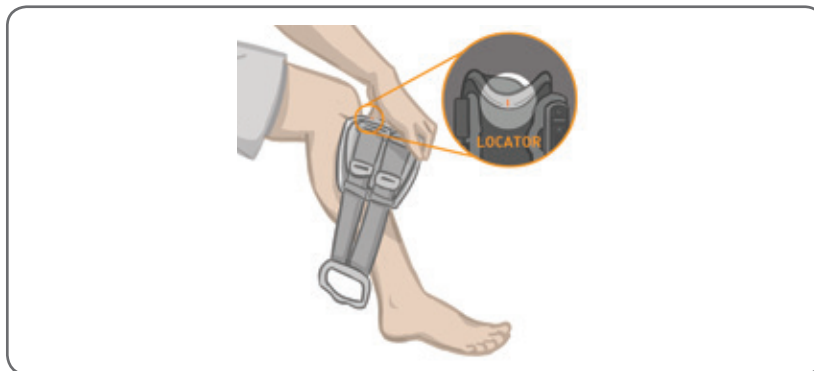
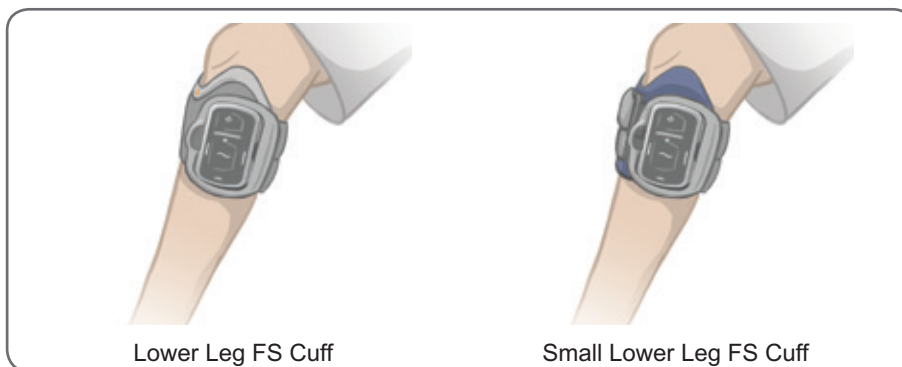

Figure 6-12: Positioning the Lower Leg FS Cuff on the Leg
Figure 6-14: Lower Leg FS Cuff fastened on the leg
2. Make sure the electrodes are securely attached. Then, grasp the front of the lower leg FS Cuff by the cradle and tilt the bottom of the FS Cuff up. Slide the locator up your leg until it rests snugly and comfortably below your kneecap. See Figure 6-12.
5. Make sure the lower leg FS Cuff is correctly positioned. See Figure 6-14. Reposition the lower leg FS Cuff as necessary. Adjust the hook and loop fasteners (see Figure 6-12) to ensure a snug fit.